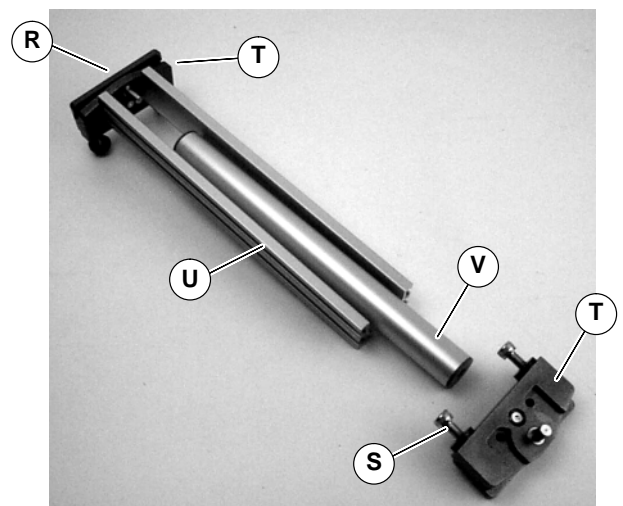

Figure 10
1. Gather components (Figure 10).